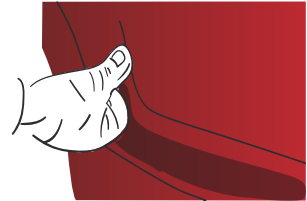

Figure 10
- › Heat to a temperature ranging from 40 °C to 50 °C (from 104 °F to 122 °F) and press the film with your thumb into the hollow area so as to properly apply the adhesive-coated film. (FIG. 10)